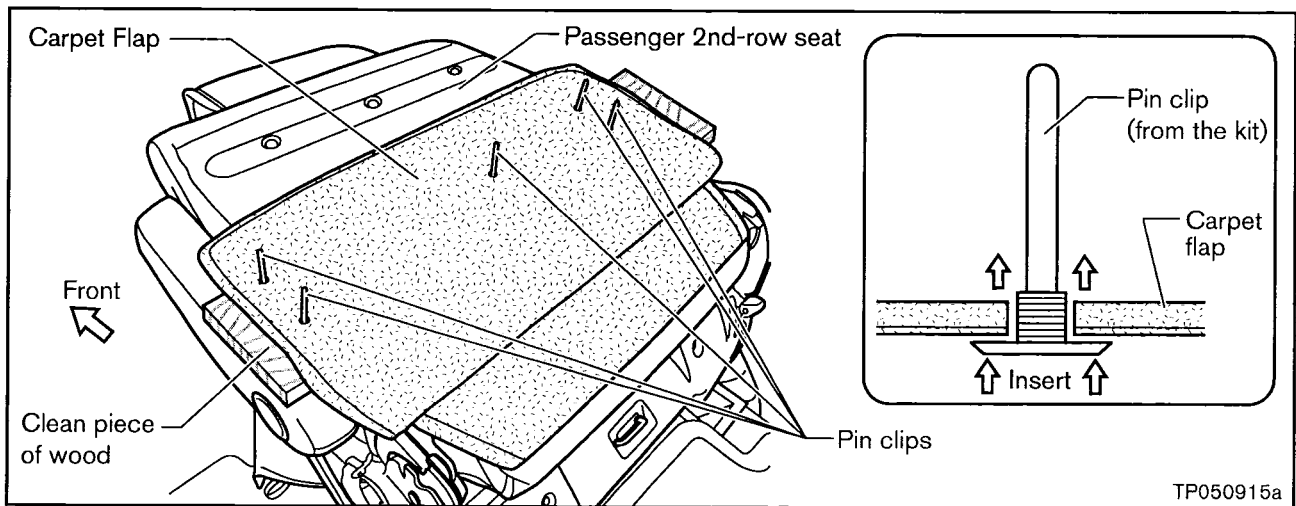

Figure 13
- c. Insert an attachment pin clip through each hole that you made with the pointed awl tool (see Figure 13). The pin clips should be inserted from the back side of the carpet flap.